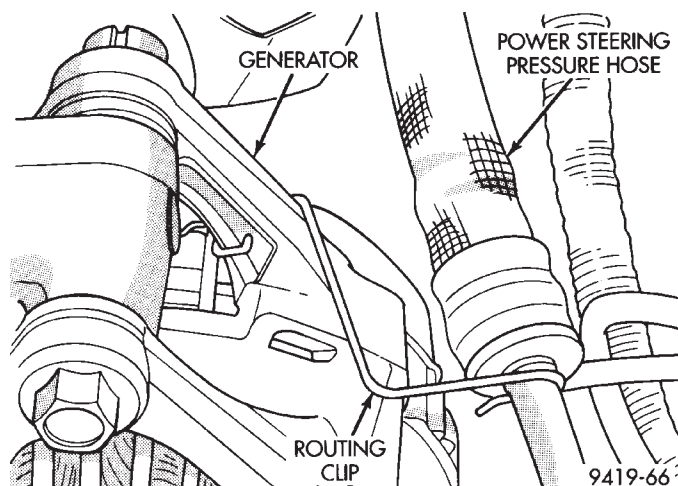

Fig. 16 Power Steering Pressure Hose Routing Clip
(3) If vehicle being serviced is equipped with a 3.5 liter engine, remove the power steering pressure hose routing clip at the generator bracket (Fig. 16).
(4) Raise vehicle on jackstands or centered on a frame contact type hoist. See Hoisting in the Lubrication and Maintenance section of this manual, for the required lifting procedure to be used for this vehicle.
(5) Remove the serpentine drive belt from the power steering pump pulley, and store out of the way.
CAUTION: On 3.5 ltr engine applications, correct orientation of power steering pressure hose at power steering pump must be maintained. Be sure power steering hose is installed in routing clip (Fig. 16) at generator, prior to tightening tube fitting. This will maintain required clearance between power steering pressure hose and throttle body cam.